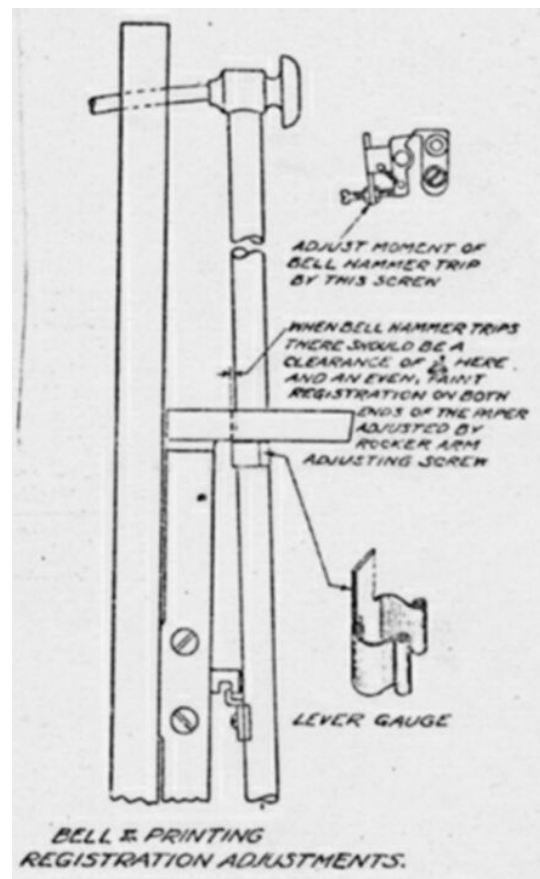

Fig. 8
6. Adjust the angle of the bell hammer trip pawl until the bell just trips with the clip under the operating lever. (See Fig. 8)